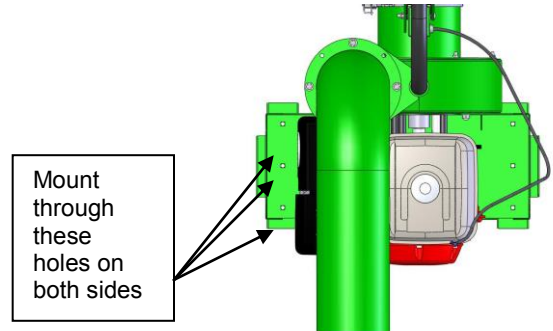

Fig. 1
**GENERAL:** Unit must be securely mounted to a trailer, truck bed, hanging brackets, or other similar surface before use. Do not use this unit in a freestanding position. Unit is not stable until it has been secured in place. Secure unit by bolting through the base of the unit and through the mounting surface using 3/8" dia. bolts, with washers and locking nuts (See Fig. 1).